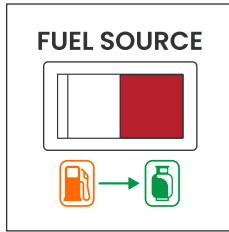

Fig.11
**B.**Press the fuel switch to the right LPG position (see **Fig.11**).